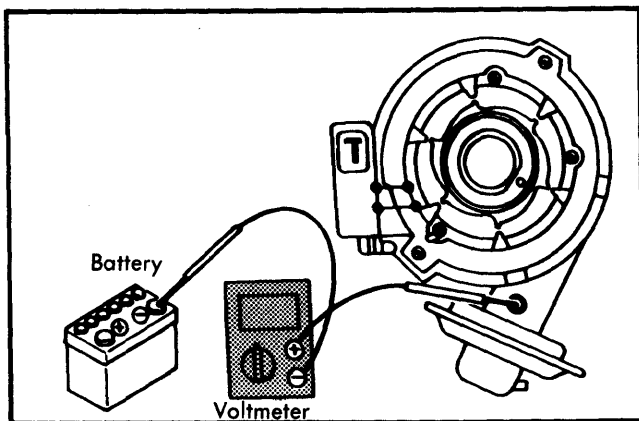

Fig. 10 Voltmeter Hookup for IC Ignition Unit Ground Circuit Check
1) Connect voltmeter negative lead to battery negative terminal. See Fig. 10. Connect positive lead to exterior of vacuum controller. Pull high tension wire from distributor cap and ground it. Turn ignition switch to "START" position and observe voltmeter reading while cranking engine.